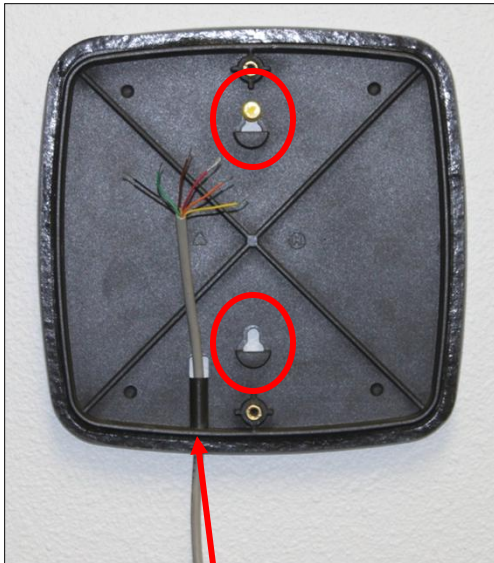

Figure 18
7. Secure the wall mounting bracket and route the six wire data cable through the channel on the bottom of the bracket (fig 18).